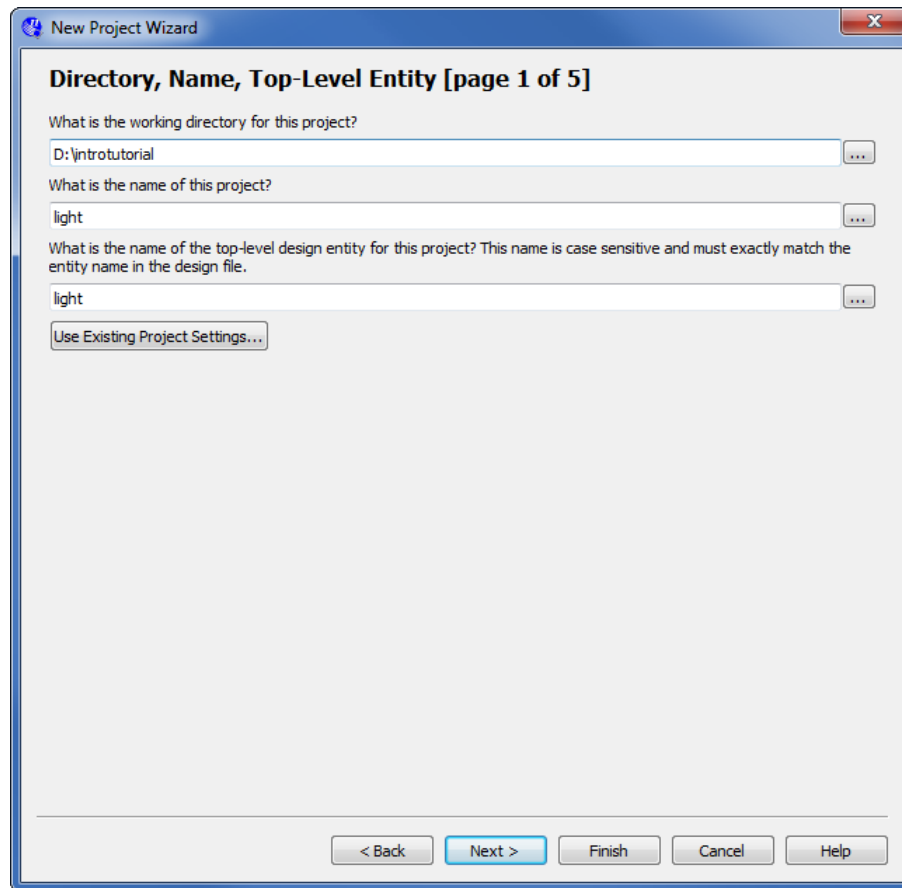
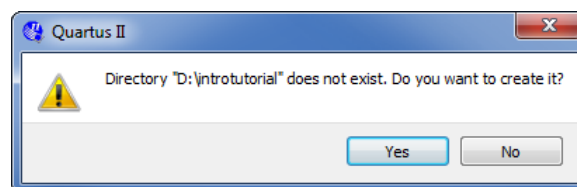
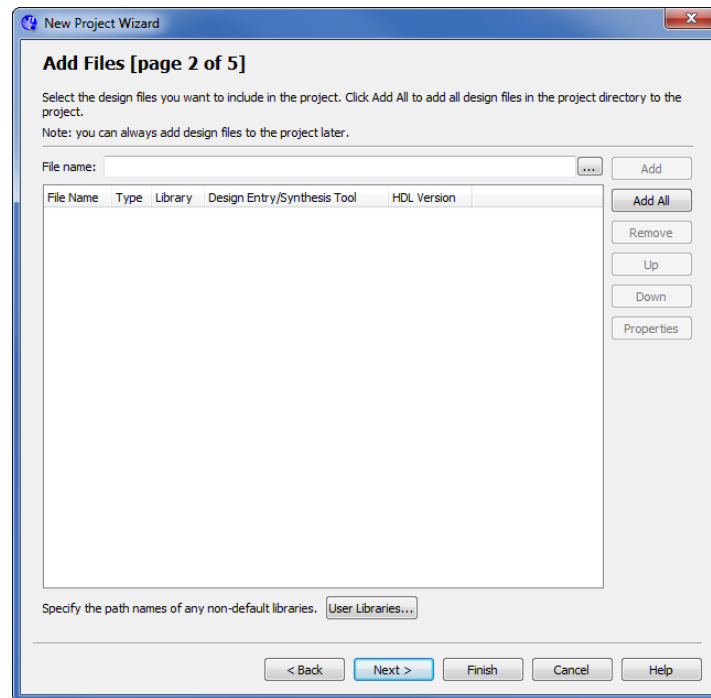

Figure 4. Creation of a new project.
Figure 5. Quartus II software can create a new directory for the project.
Figure 6. The wizard can include user-specified design files.
1. Select **File > New Project Wizard** and click **Next** to reach the window in Figure 4, which asks for the name and directory of the project.
2. Set the working directory to be *introtutorial*; of course, you can use some other directory name of your choice if you prefer. The project must have a name, which is usually the same as the top-level design entity that will be included in the project. Choose *light* as the name for both the project and the top-level entity, as shown in Figure 4. Press **Next**. Since we have not yet created the directory *introtutorial*, Quartus II software displays the pop-up box in Figure 5 asking if it should create the desired directory. Click **Yes**, which leads to the window in Figure 6.
The Quartus II Graphic Editor can be used to specify a circuit in the form of a block diagram. Select **File > New** to get the window in Figure 12, choose **Block Diagram/Schematic File**, and click **OK**. This opens the Graphic Editor window. The first step is to specify a name for the file that will be created. Select **File > Save As** to open the pop-up box depicted in Figure 13. In the box labeled **Save as type** choose **Block Diagram/Schematic File (\*.bdf)**. In the box labeled **File name** type *light*, to match the name given in Figure 4, which was specified when the project was